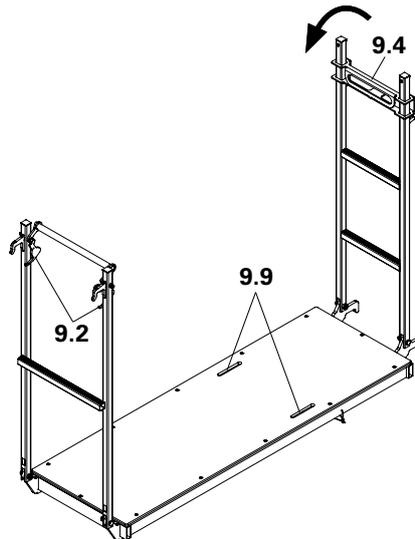

Fig. A1.30
Yellow bar without lug. (Fig. A1.30)
- Assembly Deck 150. (Fig. A1.30 + A1.33)